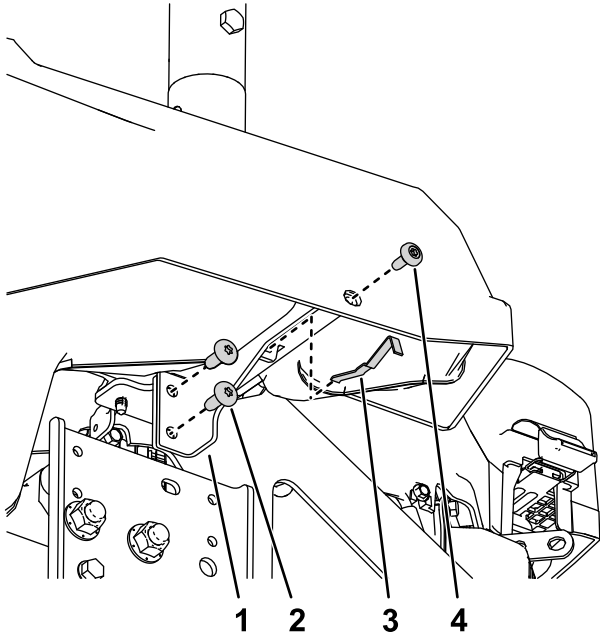

Figure 9
3. Install the left pod bracket to the machine frame using 2 thread-forming screws (5/16 x 3/4 inch) and the parts removed in 1 Preparing the Machine \(page 3\) as shown in Figure 9.